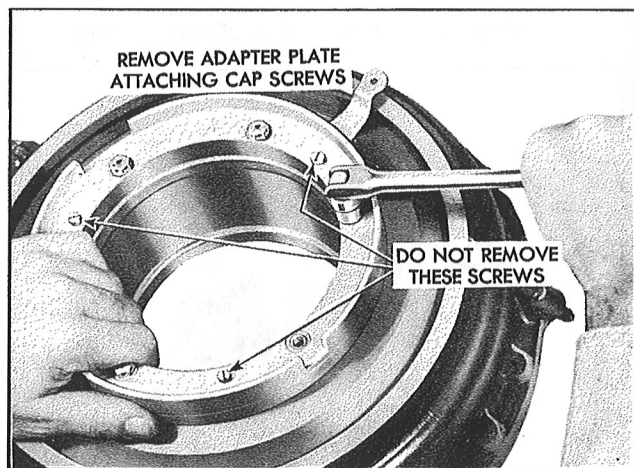

Figure 126—Removal of the Adapter Plate
**Step 5.**—Move the control lever to full travel clockwise and remove the  $\frac{1}{4}$ " x 28 adapter cap screws, using a  $\frac{7}{16}$ " speed wrench. See Figure 126.